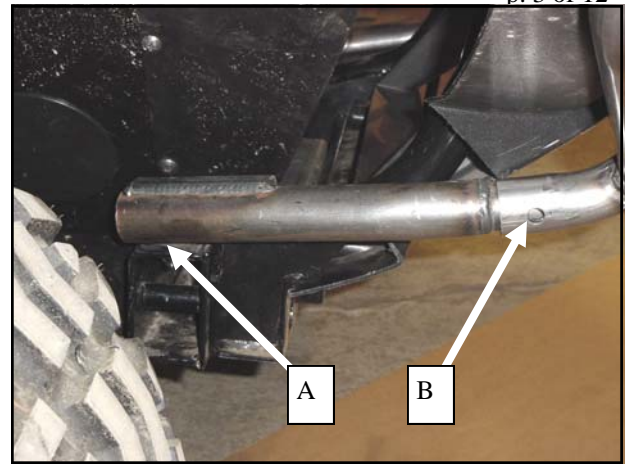
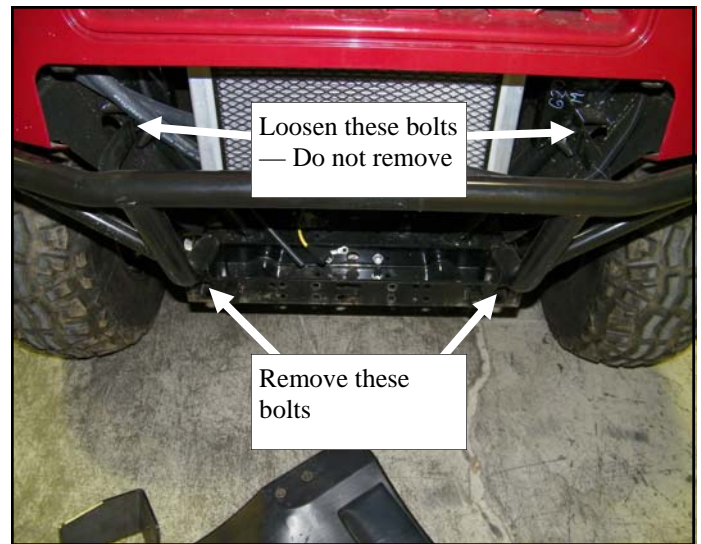

Fig. 1.1—Remove optional Brush Guard
Fig. 1.2—Loosen Bumper
1.1 **If not equipped with optional brush guard, proceed to next step**, otherwise loosen the vehicle brush guard lower mounts (A) and remove the nuts and bolts at the lower portion of the guard (B) (see figure 1.1). Remove the nuts from the top mounts and loosen the bolts so that the brush guard can be removed, ref. figure 1.2. Remove the four Phillips head bolts that hold on the plastic bumper cover. Save all hardware for reinstallation later.
1.2 Per fig. 1.2, locate the four bolts that fasten the bumper to the frame of the vehicle. Loosen the 2 upper support bolts, if not already loosened when removing the brush guard. Remove the 2 lower bumper support bolts. Save the nuts, but the bolts can be discarded as they will be replaced with longer bolts.
1.5 **If not equipped with optional brush guard, proceed to next step**, otherwise reinstall it, with the plastic bumper cover resting inside. **Tighten the brush guard lower mounts ("A" figure 1.1) now, as they are very difficult to access after plow mount installation. Torque to 33 ft lbs.** Leave the rest of the brush guard bolts loose and do not install any of the bumper cover bolts. See figure 1.5.